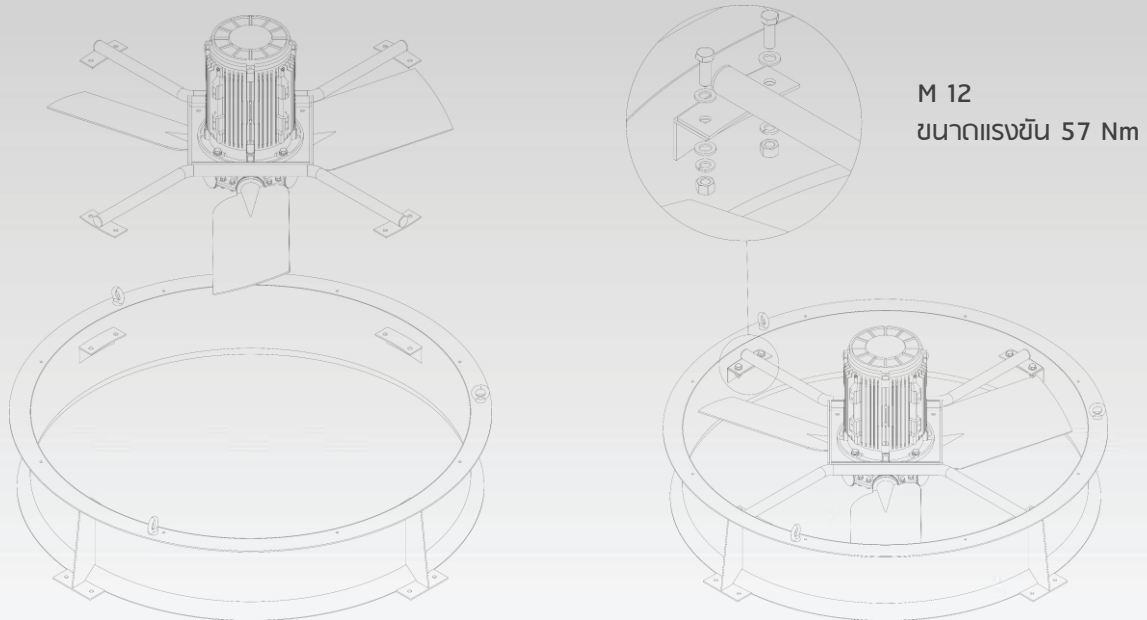

Figure 3 Attach Fan Leg to Chimney
1. Assemble the leg to the chimney, as shown in Figure 3.